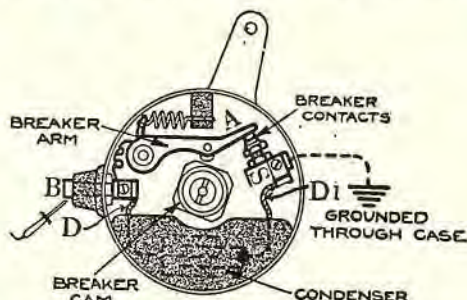

Fig. 2. Testing condenser on N. E. (Dodge) model "O" interrupter or contact-breaker.
The condenser in the N.E. Model "O" interrupter is in the contact breaker housing, and connects across the points of the contact breaker. One point of the contact breaker in this system, is grounded, and so also is one end of the condenser (see Fig. 2). The purpose of the condenser is
To test condenser for a ground: Disconnect condenser leads (D, D1) from the contact breaker mechanism (Fig. 2). Hold one test lead (110 or 220-volt direct-current lamp and leads) against the condenser case, and touch the two condenser leads (D, D1), one at a time with the other lead. The test lamp will light if there is a ground; if the condenser is in proper shape, the lamp will not light.
To test contact breaker for a ground: Disconnect the wire to the contact breaker binding post at (B), (Fig. 2). Separate the contact points. Touch one test lead to the shell of the contact-breaker box and the other to breaker arm (A). The lamp should not light if everything is correct. If the breaker is
To test contact breaker for short circuit: Disconnect wire at (B) (Fig. 2) to contact breaker. Separate points. Place one test lead on the terminal (B), and the other on the stationary contact (S). If the lamp lights there is a short circuit. Be sure the condenser is in good order, for the reasons given in the test immediately preceding. If the lamp does not light it is without defect.